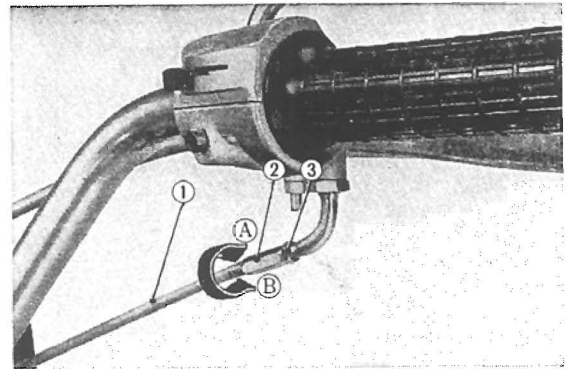

Fig. 4. 8 Throttle cable play adjustment
4. Joint the electrical leads from the handle bar at the headlight case and then mount the headlight unit and the headlight rim. (Fig. 4. 10)